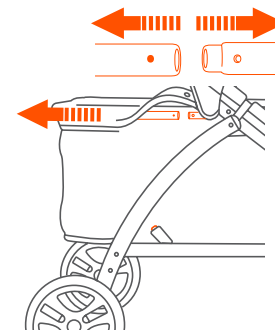

Fig. 17c
- Press the pin to remove the rear frame bar and pull the fabric away from the frame. Remove the the bar from the fabric (Fig. 17c) and remove the D-ring on each side (Fig. 17d).